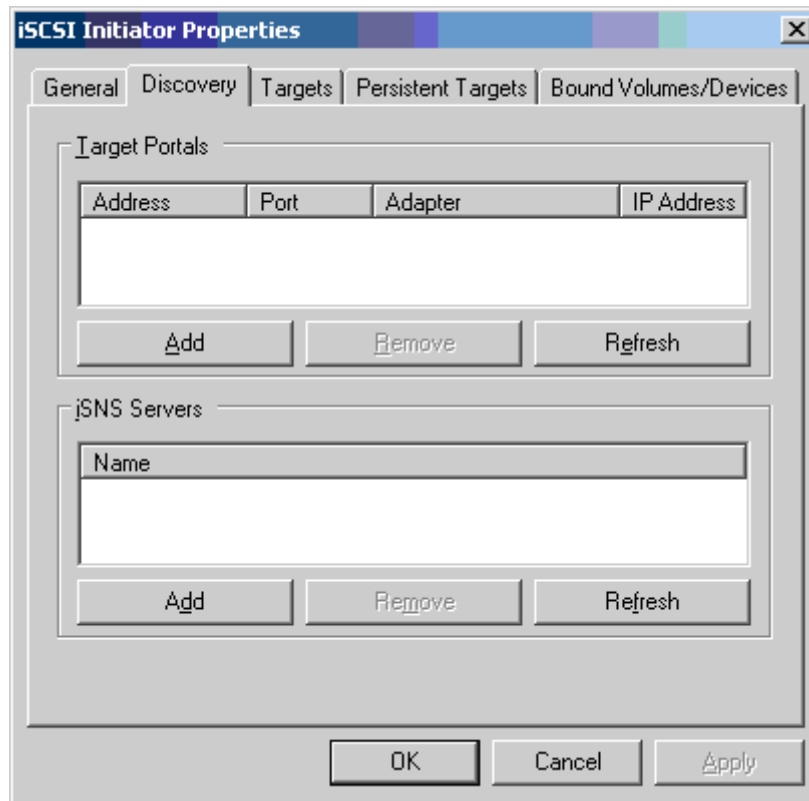

Figure 11-9. iSCSI Initiator Properties: Discovery Page
4. On the iSCSI Initiator Properties (Figure 11-9), click the **Discovery** tab, and then under **Target Portals**, click **Add**.